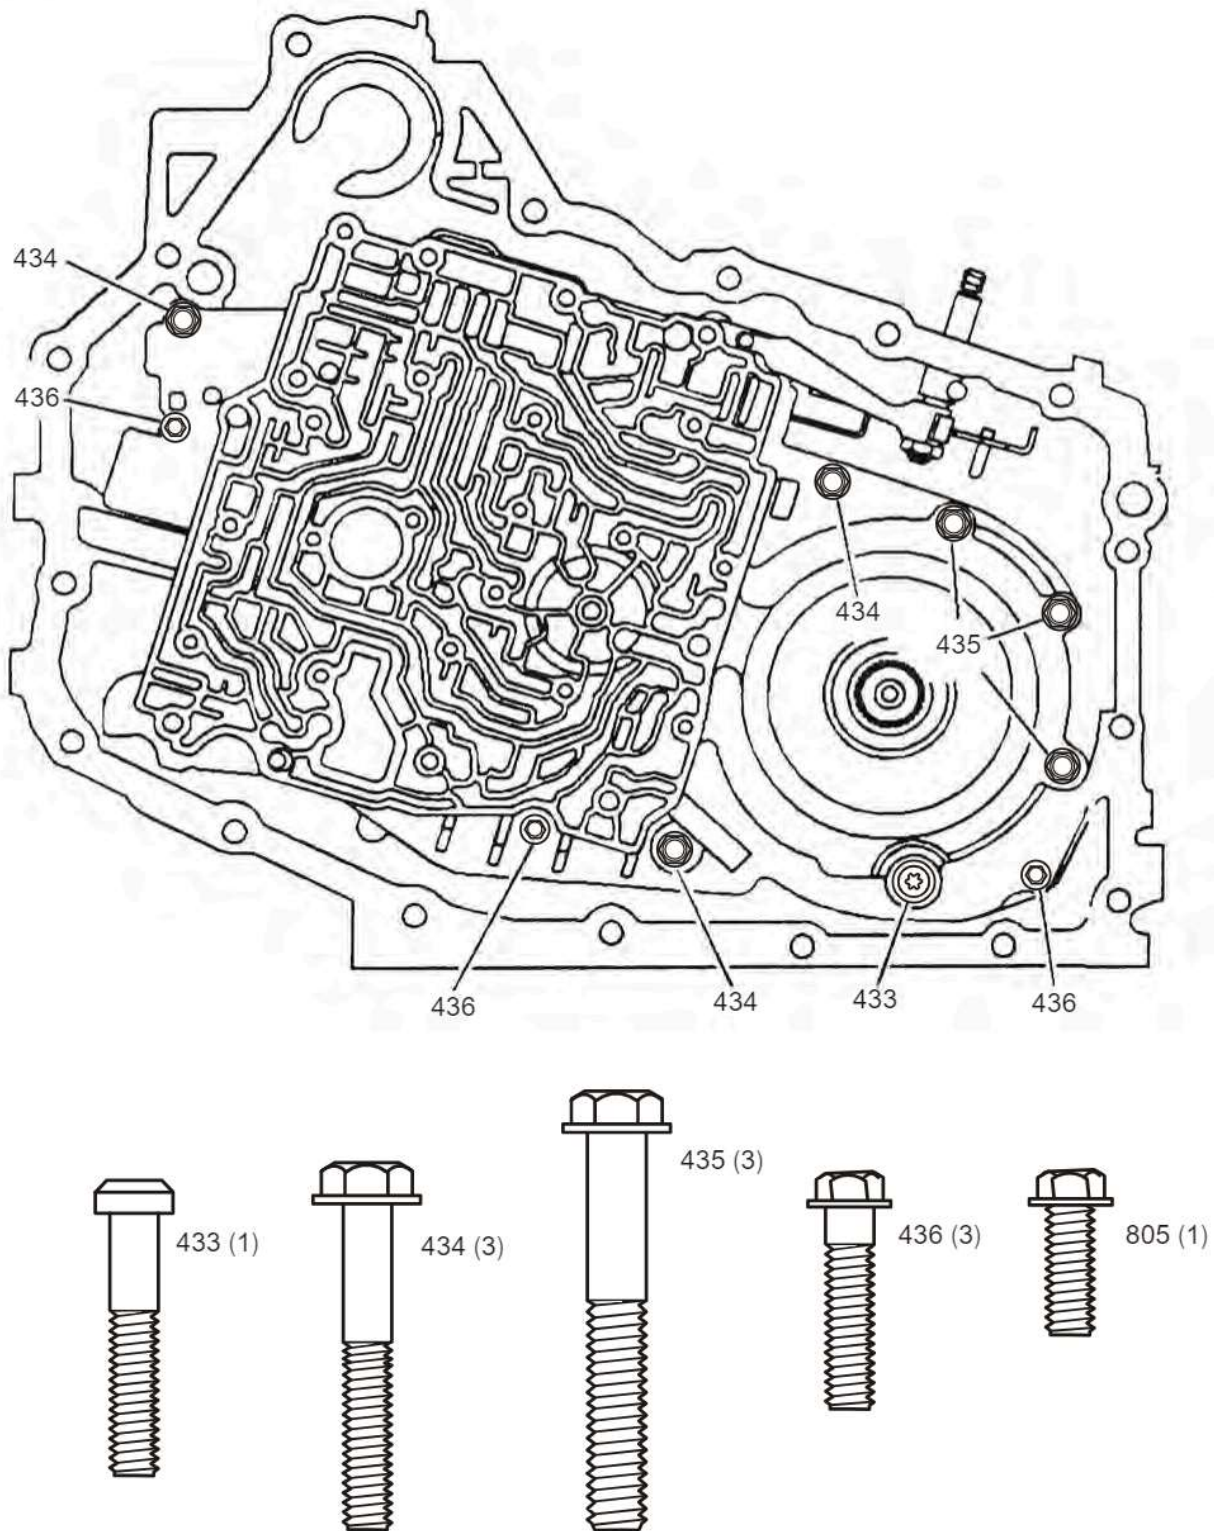

Figure 178
86. Install the case cover bolts in proper locations using the chart in Figure 178.
87. Torque the M6 diameter bolts (433)(434)(436) and (805) to 11N.m (97 lb.in.). Refer to Figure 178 for bolt locations.
88. Torque the 3 M8 diameter bolts (435) to 25N.m (18 lb.ft.). Refer to Figure 178 for bolt location.